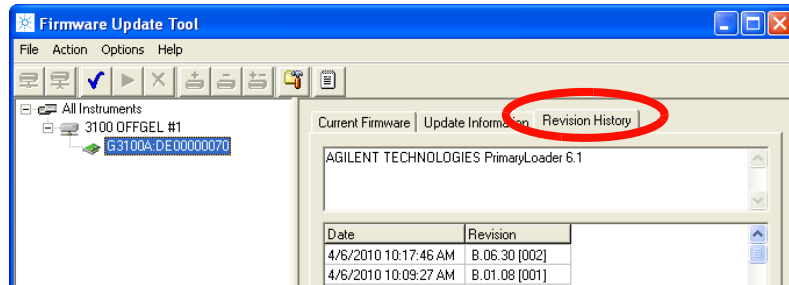

Figure 37 Revision History Information screen
- 3 Select the **Revision History** tab. This window shows details of the used main board and the update history in the module, see Figure 37.